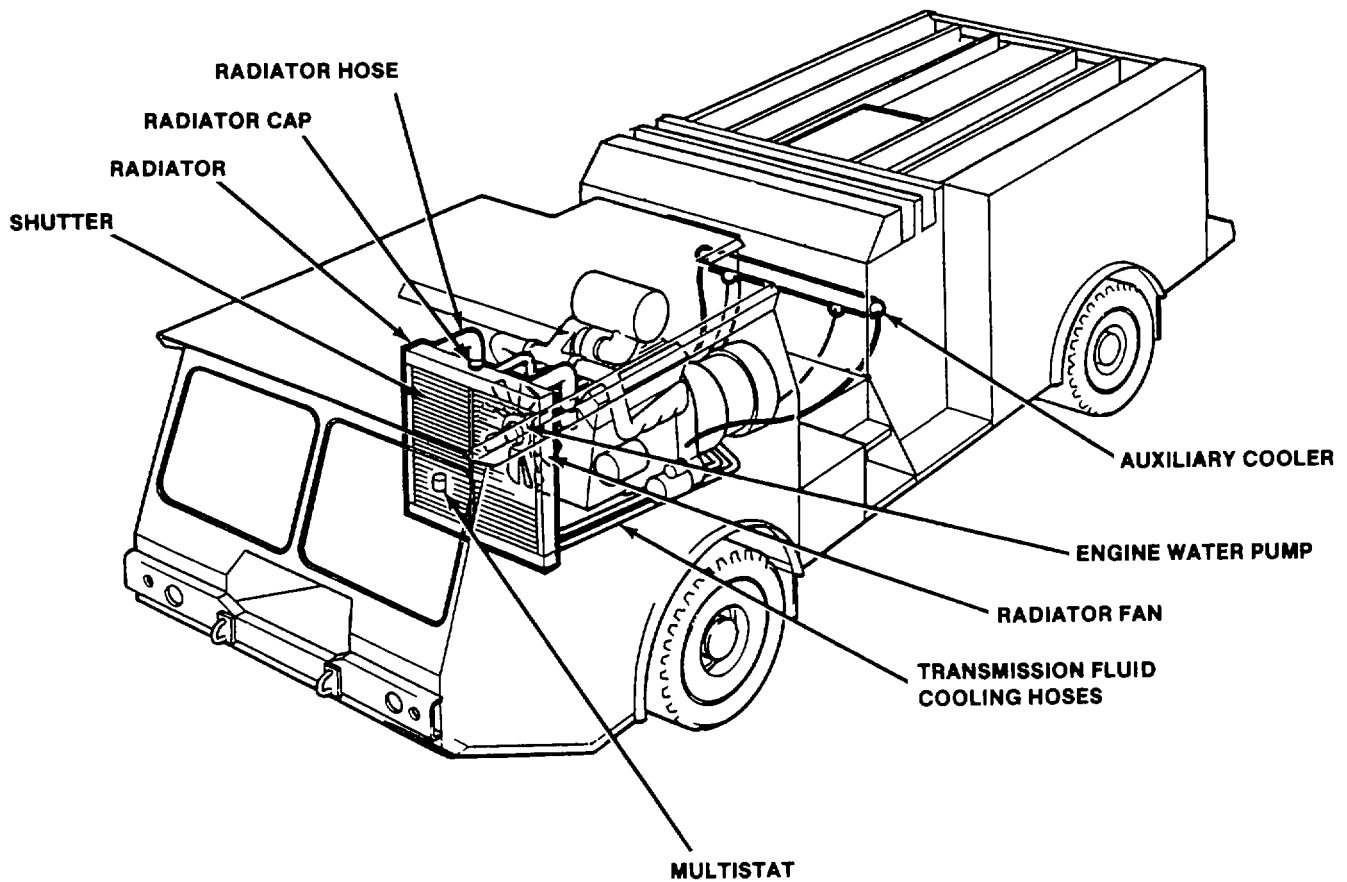

Figure 1-9. Cooling System Components
(1) The engine cooling system consists of the radiator, engine mounted water pump, temperature controlled fan, and hoses connecting the engine and radiator, (see fig. 1-9). Hoses are installed between the transmission and the oil cooler, built into the radiator, for cooling the transmission fluid. Additional hoses connect the engine cooling system to the cab heater unit and to the winterization system.
(2) To control the amount of cooling air flowing through the radiator, a compressed-air-operated radiator shutter and fan are provided. The shutter and fan operation is automatically controlled by a multistat (temperature probe and control valve assembly). The multistat is located in the return coolant line from the radiator to engine.
(3) A liquid-to-liquid type auxiliary cooler is provided for additional cooling of the engine when the truck is stationary and operating in the structural firefighting mode. The auxiliary cooler is located in the pump body and connected with hoses to the engine cooling system. Water derived from the fire pump discharge is used for cooling the engine coolant. The flow of water is controlled with a valve mounted on the structural control panel.